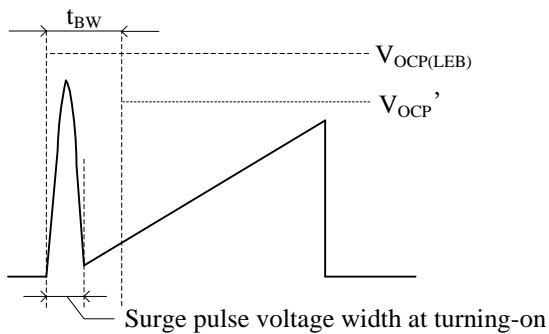
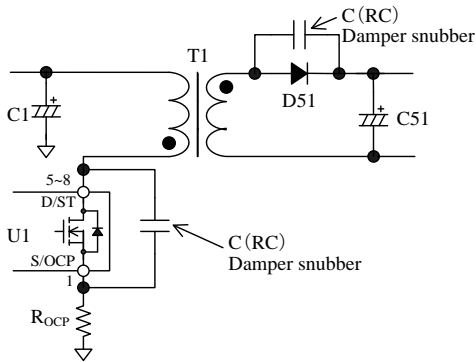

Figure 10-12. S/OCP Pin Voltage
Figure 10-13. Damper Snubber
in Figure 10-12. Changing to this threshold voltage prevents the IC from responding to the surge voltage in turning-on the power MOSFET. This function operates as protection at the condition such as output windings shorted or unusual withstand voltage of secondary-side rectifier diodes.
When the power MOSFET turns on, the surge voltage width of the S/OCP pin should be less than t_{BW} , as shown in Figure 10-12. In order to prevent surge voltage, pay extra attention to R_{OCP} trace layout (see Section 11.2). In addition, if a C (RC) damper snubber of Figure 10-13 is used, reduce the capacitor value of damper snubber.